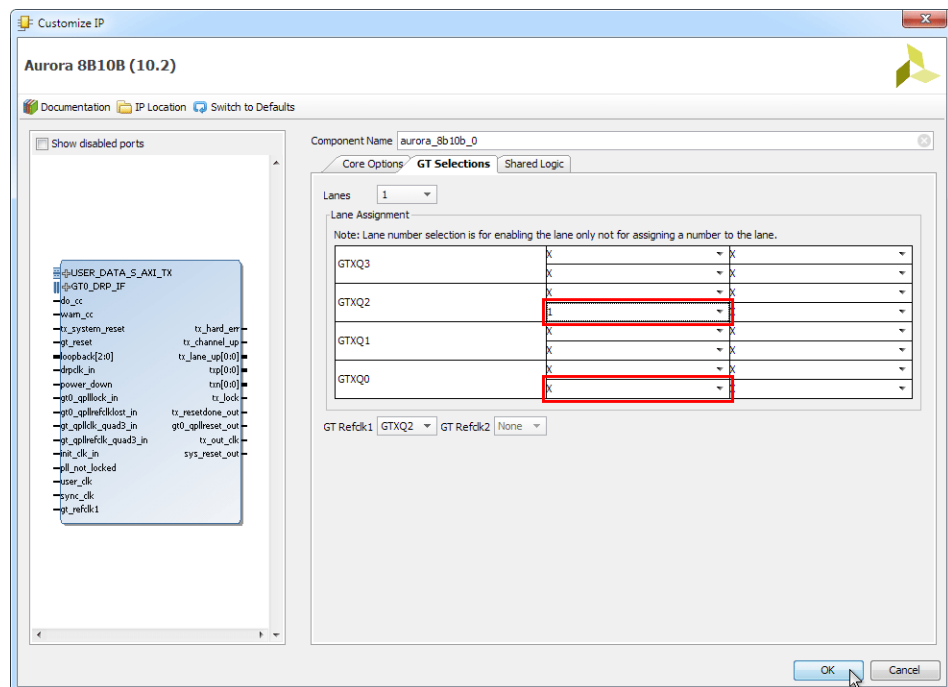

Figure 9: Aurora 8B/10B Simplex GT Selections
12. Change the lower list box setting for GTXQ2 from X to 1 (Figure 9).